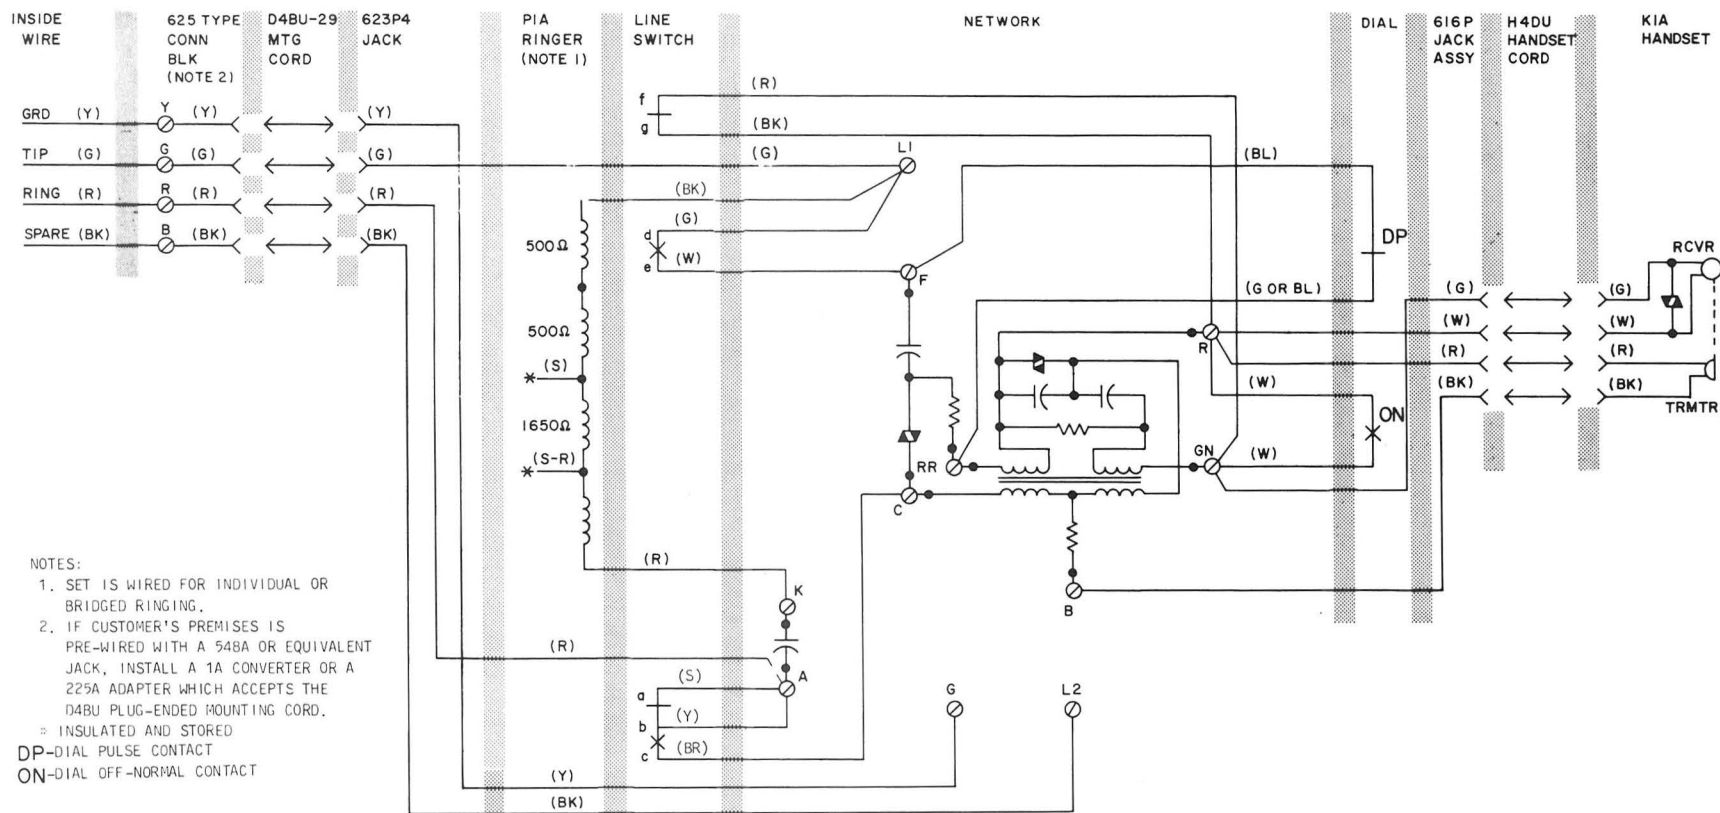

Fig. 8—930A- (MD) or 930B-Type (MD) Telephone Set, Connections
3.02 The internal connections for the 930-, 2930-type, and 2931B telephone sets, for nonkey system use, are shown in Fig. 8 and 9, respectively.
3.03 Connections for 1A KTS do not require any set modifications and are the same as Fig. 8 and 9.